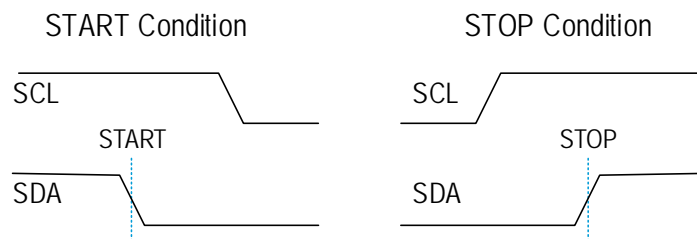

Figure 11. START and STOP Condition Waveform
The sensor transmission is initiated when the master sends a 0 START bit (S). The transmission is terminated when the master sends a 1 STOP bit (P). These bits are only transmitted while the SCL line is HIGH (see Figure 11 for waveforms).